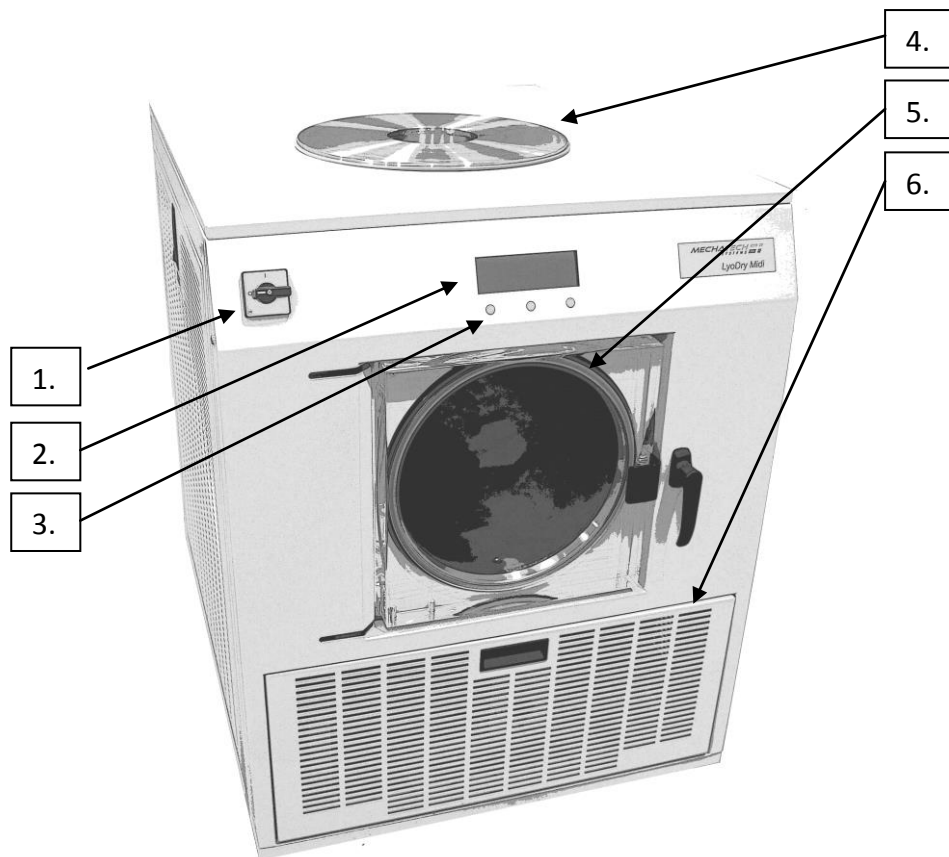

Figure 3 – LyoDry Midi.
1. Switch on the electrical supply and then turn the mains switch (item 1, Figure 3) to the '1' (on) position.
2. The display (item 2, Figure 3) on the front panel should be illuminated.
7. Attach an empty drying accessory to the accessory flange (item3, Figure 3).
A transparent door at the front of the LyoDry Midi freeze dryer allows easy inspection, cleaning and defrosting of the condenser chamber (item 5, figure 3).
The use of the controls and connections are described in Table 3 and Figure 3.